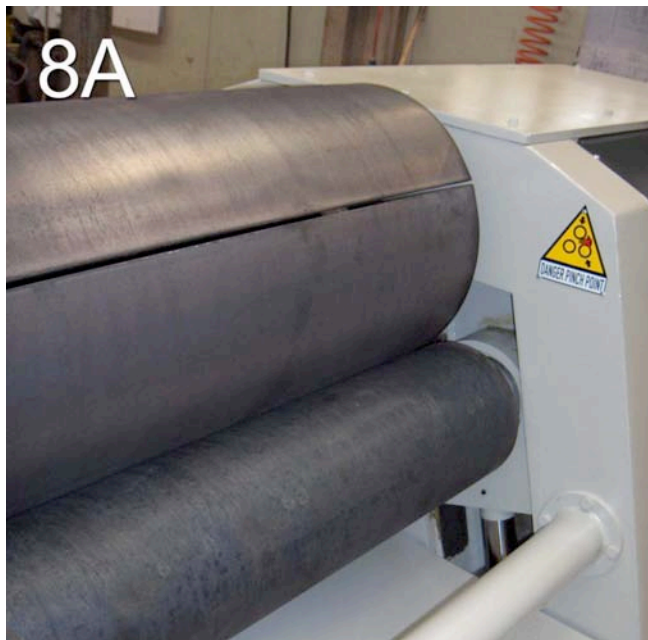

Figure 3
-and eventually the seam (see Figure 3).